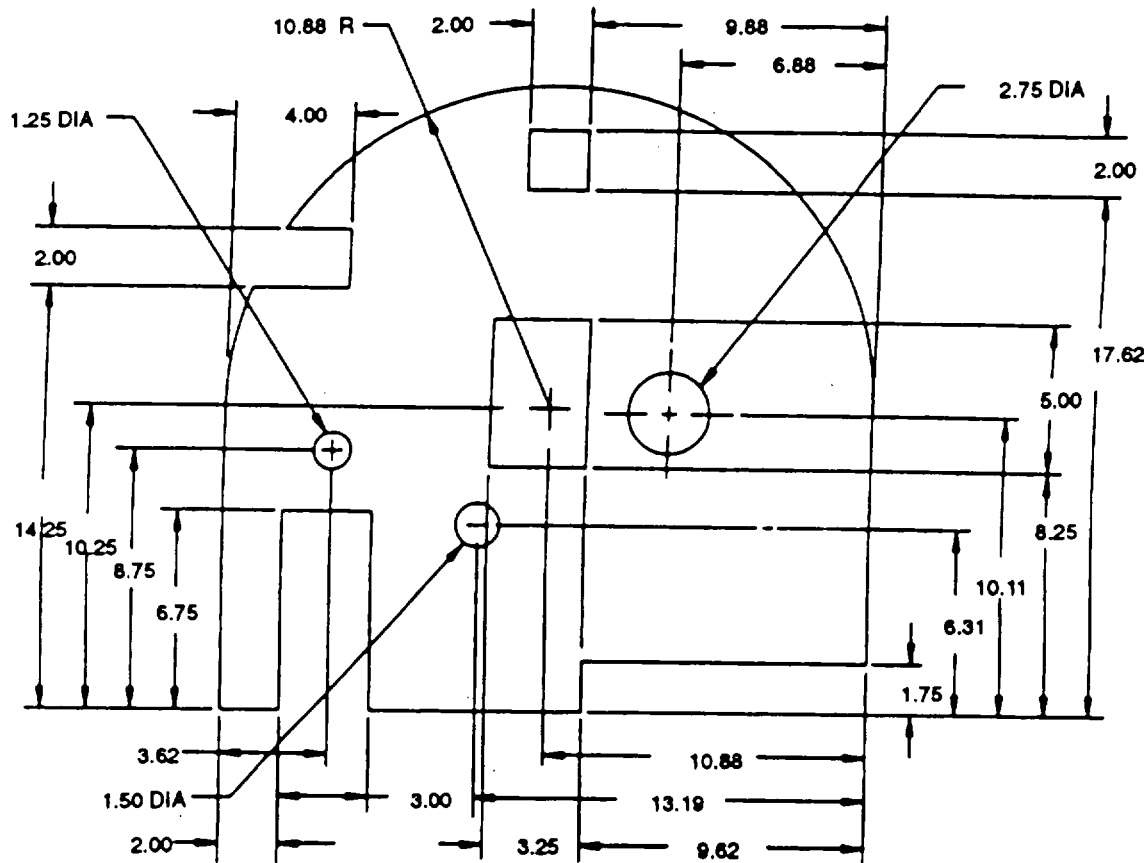

Figure G-1. Acoustical Foam, Sound Enclosure, Front Panel Assembly
G.2 The following manufactured items are required for this centrifugal pump unit. See Figures G-1, G-2, G-3, G-4, G-5, G-6, and G-7.